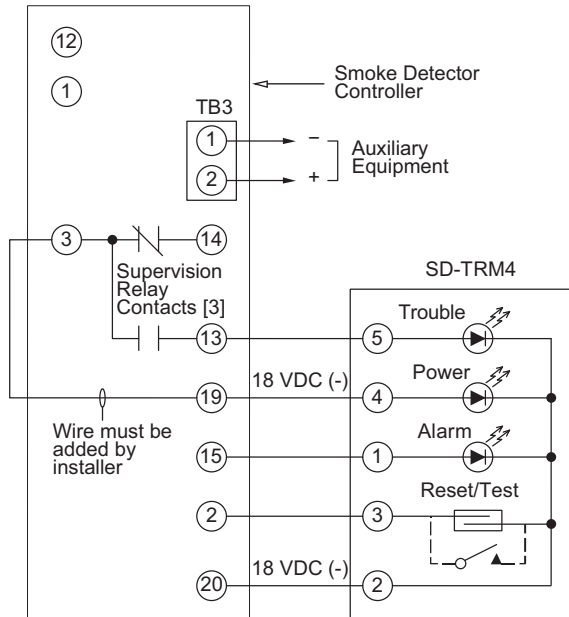

Fig. 55 — Remote Test/Reset Station Connections
The test/reset station dirty sensor test checks the test/reset station's ability to initiate a sensor dirty test and indicate the results. It must be wired to the controller as shown in Fig. 55 and configured to operate the controller's supervision relay. For more information, see "Dirty Sensor Test" on page 40.
1. Verify that the remote test/station is wired as shown in Fig. 55. Repair or replace loose or missing wiring.